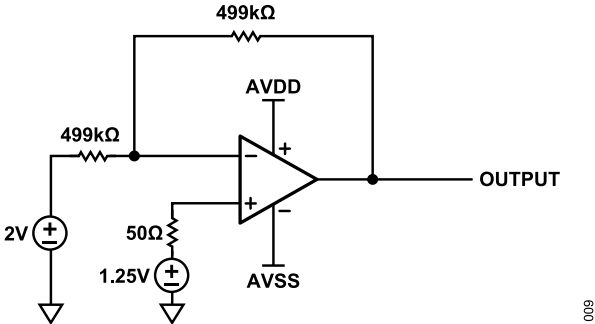

Figure 7. DC Voltage Source Input Test Circuit, Shunt installed at P4 and P4
9. Install a shunt on P5 or P4 to set the gain to -1 . The equivalent test circuit is shown in Figure 7.